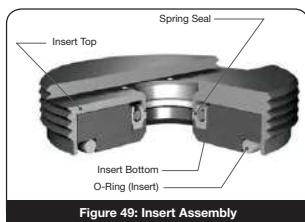

Figure 49: Insert Assembly
- e. Final Insert Assembly is shown in Figure 49.